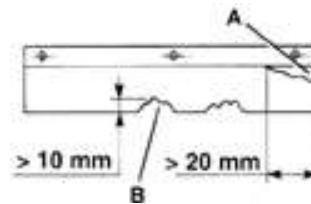
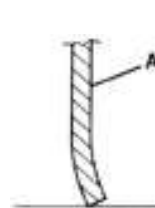
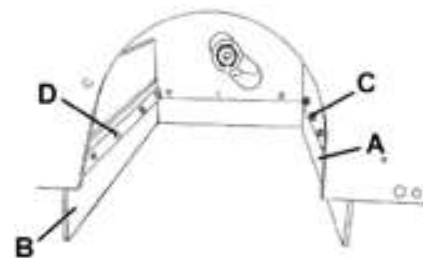

Figure 12
Figure 14
Figure 17
- 1) Unscrew the knobs (17 and 34) and remove both left (16) and right covers (33).
- 2) Check the side skirts (11 and 12) for integrity. Replace the skirts when they have cuts (A, fig. 12) larger than 0.79 in (20 mm) or cracks (B) larger than 0.39 in (10 mm) (for skirt replacement).
- 2) Check the front (13) and rear skirts (14) for integrity. Replace the skirts when they have cuts (A, fig. 12) larger than 0.79 in (20 mm) or cracks (B) larger than 0.39 in (10 mm) (for skirt replacement).
- The front skirt (A, fig. 17) slightly touches the floor (A, Fig. 14).
- The distance from the ground of the rear skirt (B, fig. 17) is within 0-0.12 in 0-3 mm (A, fig. 12).
- 4) If necessary, adjust the skirt height by using the slots on the screws (C and D, fig. 17).